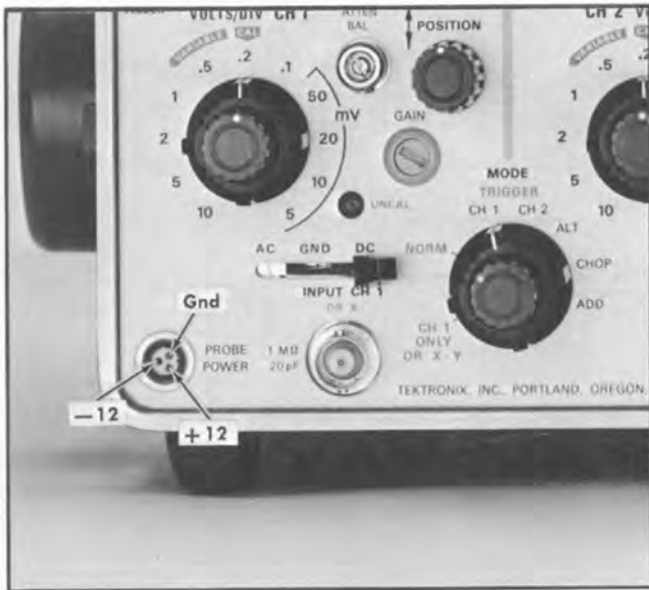

Fig. 5-1. Location of terminals in the CH 1 and 2 PROBE POWER connectors.
a. Connect the DC voltmeter between the +12-volt terminal of the CH 1 PROBE POWER connector (see Fig. 5-1) and the ground terminal.
c. Connect the DC voltmeter between the −12-volt terminal of the CH 1 PROBE POWER connector (see Fig. 5-1) and the ground terminal.
e. Connect the DC voltmeter between the ground terminal of the CH 1 PROBE POWER connector (see Fig. 5-1) and chassis ground.
g. Connect the DC voltmeter between the +12-volt terminal of the CH 2 PROBE POWER connector (see Fig. 5-1) and the ground terminal.
i. Connect the DC voltmeter between the −12-volt terminal of the CH 2 PROBE POWER connector (see Fig. 5-1) and the ground terminal.
k. Connect the DC voltmeter between the ground terminal of the CH 2 PROBE POWER connector (see Fig. 5-1) and chassis ground.